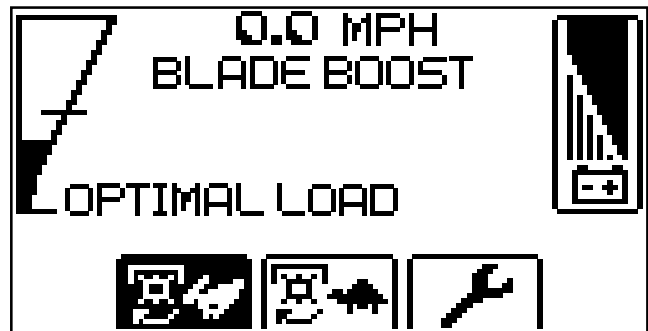

Figure 5-10
1. The rider is equipped with a blades boost function/optimal load that increases the speed of the blade rotation. To engage the blade boost, press the “BLADE BOOST” button below the blade boost icon on the LCD display. When the blade boost is active, the icon will darken. See Figure 5-10.